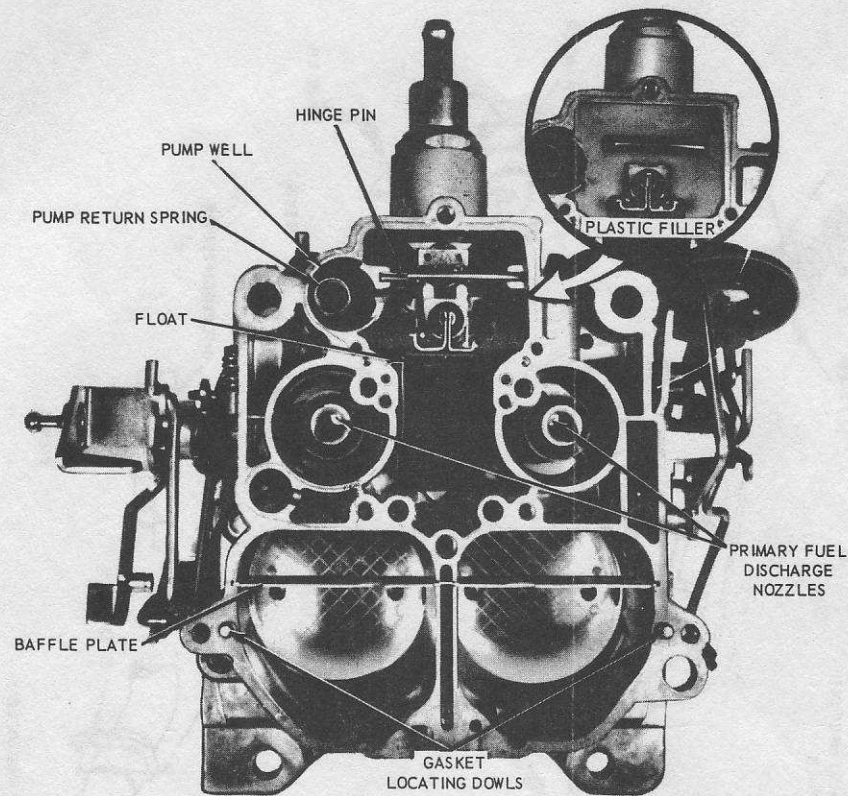

Fig. 3.58 Dismantling the float bowl (Rochester Quadrajets 4MV carburetor) (Sec. 24)
- 13 Remove the plastic filler block over the float valve (Fig. 3.58).